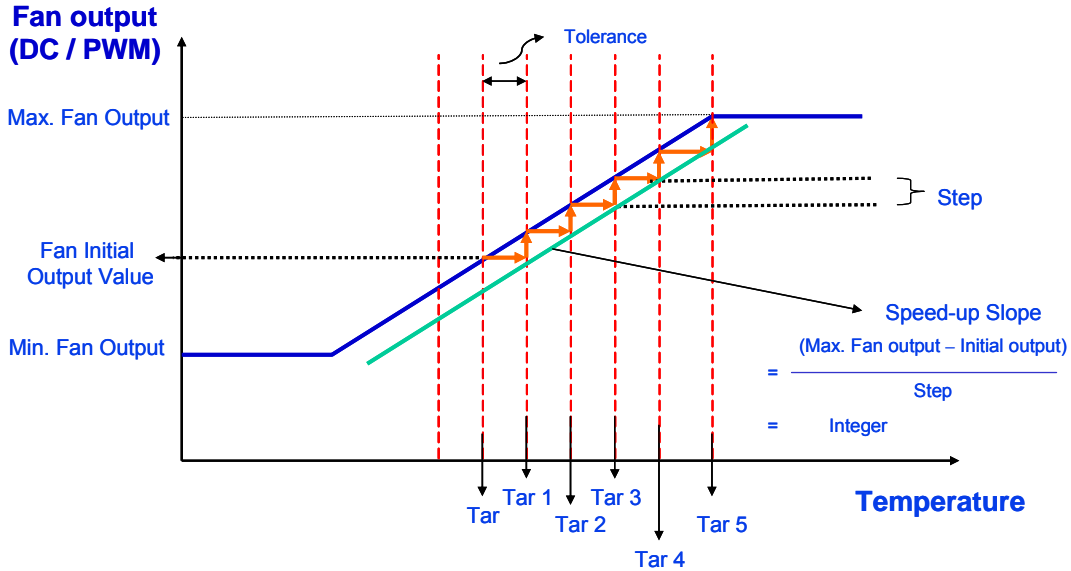

Figure 7.10
- (2) In the case that currently measured temperature goes beyond (Target Temperature + Temperature Tolerance), which is shown in Figure 7.10, fan speed jumps up to the next step. “Step” here refers to the value in the CPUFANOUT Output Value Select Register, Bank0 Index03h or Index61h.
- (3) Meanwhile, original Target Temperature dynamically shifts to (Target Temperature + Temperature Tolerance), and new Target Temperature, named Target Temperature 1, is formed. In other words, Target Temperature 1 equals original Target Temperature plus Temperature Tolerance.
- (4) If the currently measured temperature is within the (Target Temperature 1 \pm Temperature Tolerance) then, the fan speed remains constant. Otherwise, fan speed jumps up to the next step again. Target Temperature then dynamically shifts to (Target Temperature 1 + Temperature Tolerance), and new Target Temperature again, named Target Temperature 2, is formed.
- (5) The fan-speed-up and Target Temperature comparison-then-shift process continue until currently measured temperature locates within (Target Temperature X \pm Temperature Tolerance), or fan output speed reaches its maximum speed.
- (6) **Please be noted that “Speed-up Slope” shown in the Figure 7.10 must be an integer.** In other words,